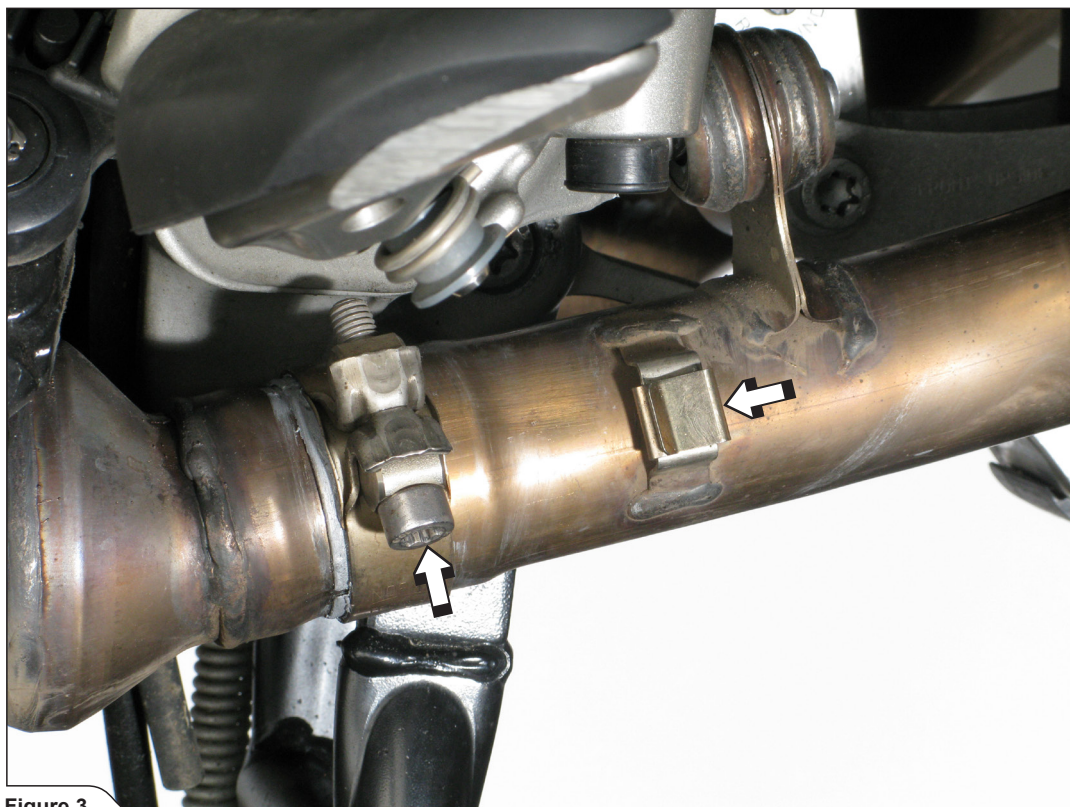

Figure 3
3. Untighten the marked clamps and remove the heat shields' spring clips on both sides of the motorcycle (Figure 3, 4).